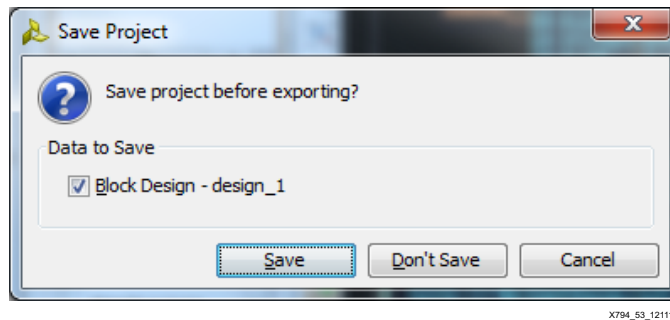

Figure 53: Save Project Before Exporting
- If you have not saved the IP Integrator block diagram, save it before exporting the hardware for SDK (Figure 53). Click **Save**.